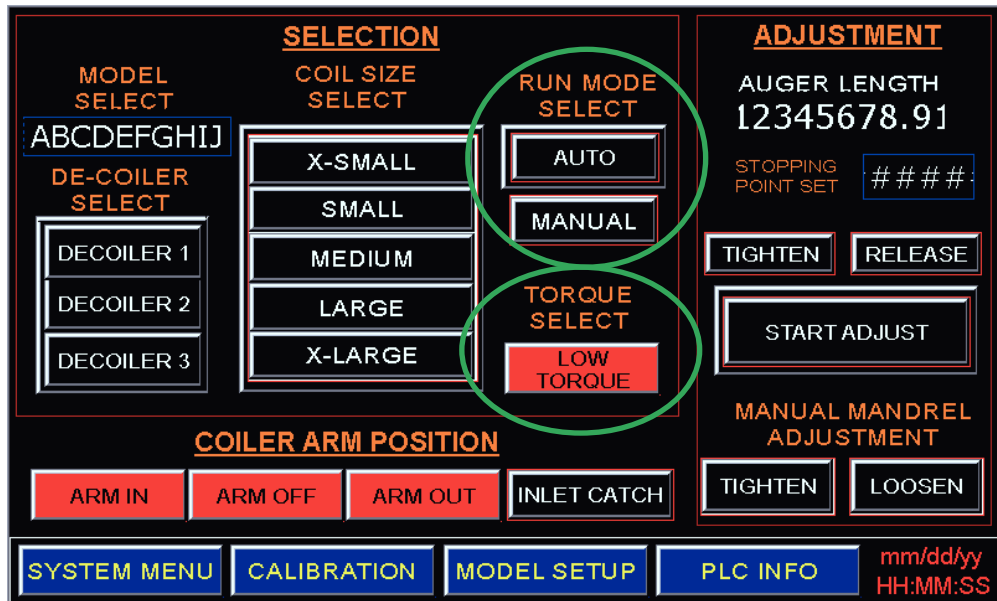

Figure 19: Home screen on HMI
The control system is activated when the system is set to run in AUTOMATIC (HIGH or LOW) mode (see Figure 19). Therefore, if the system is set to run in AUTOMATIC MODE THE DECOILER WILL ALSO ROTATE when the COILER is running! **Take special care to ensure it is safe to run the ENTIRE system before running in AUTOMATIC (HIGH or LOW) mode.**
Please see Figure 19 for instructions on switching between AUTOMATIC LOW and AUTOMATIC HIGH.
6. In the middle of the HOME SCREEN on the HMI (Figure 19, Page 23), select the coil size. This is the size of the MANDREL DIAMETER and will be pre-programmed so that small coils will fit into medium coils, medium into large etc. as explained on Page 7.